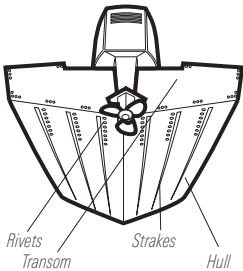

Figure 9
- The best way to locate turbulence-free water is to view the transom while the boat is moving. This method is recommended if maximum high-speed operation is a high priority. If this is not possible, select a location on the transom where the hull forward of this location is smooth, flat and free of protrusions or ribs (Figure 9).